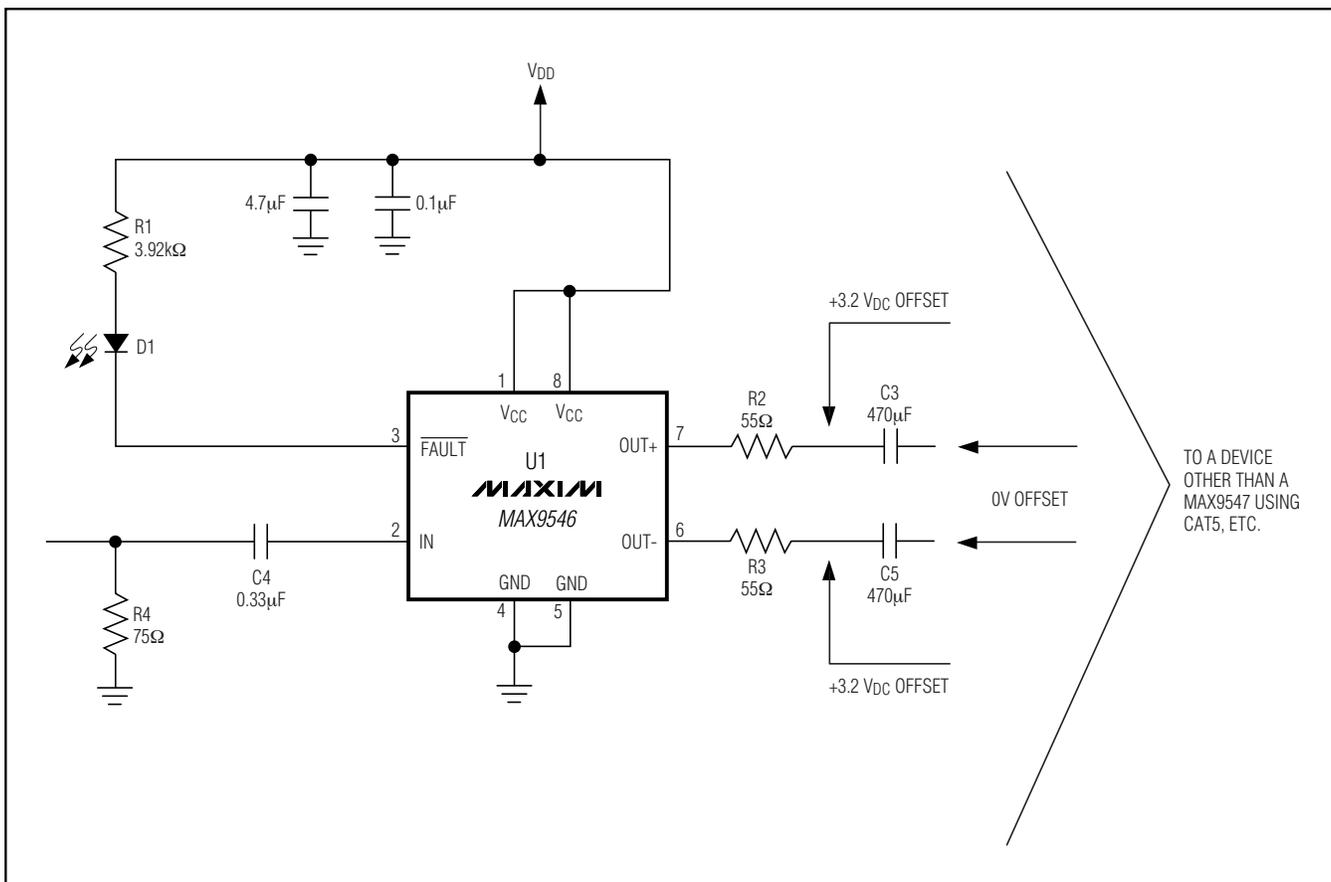
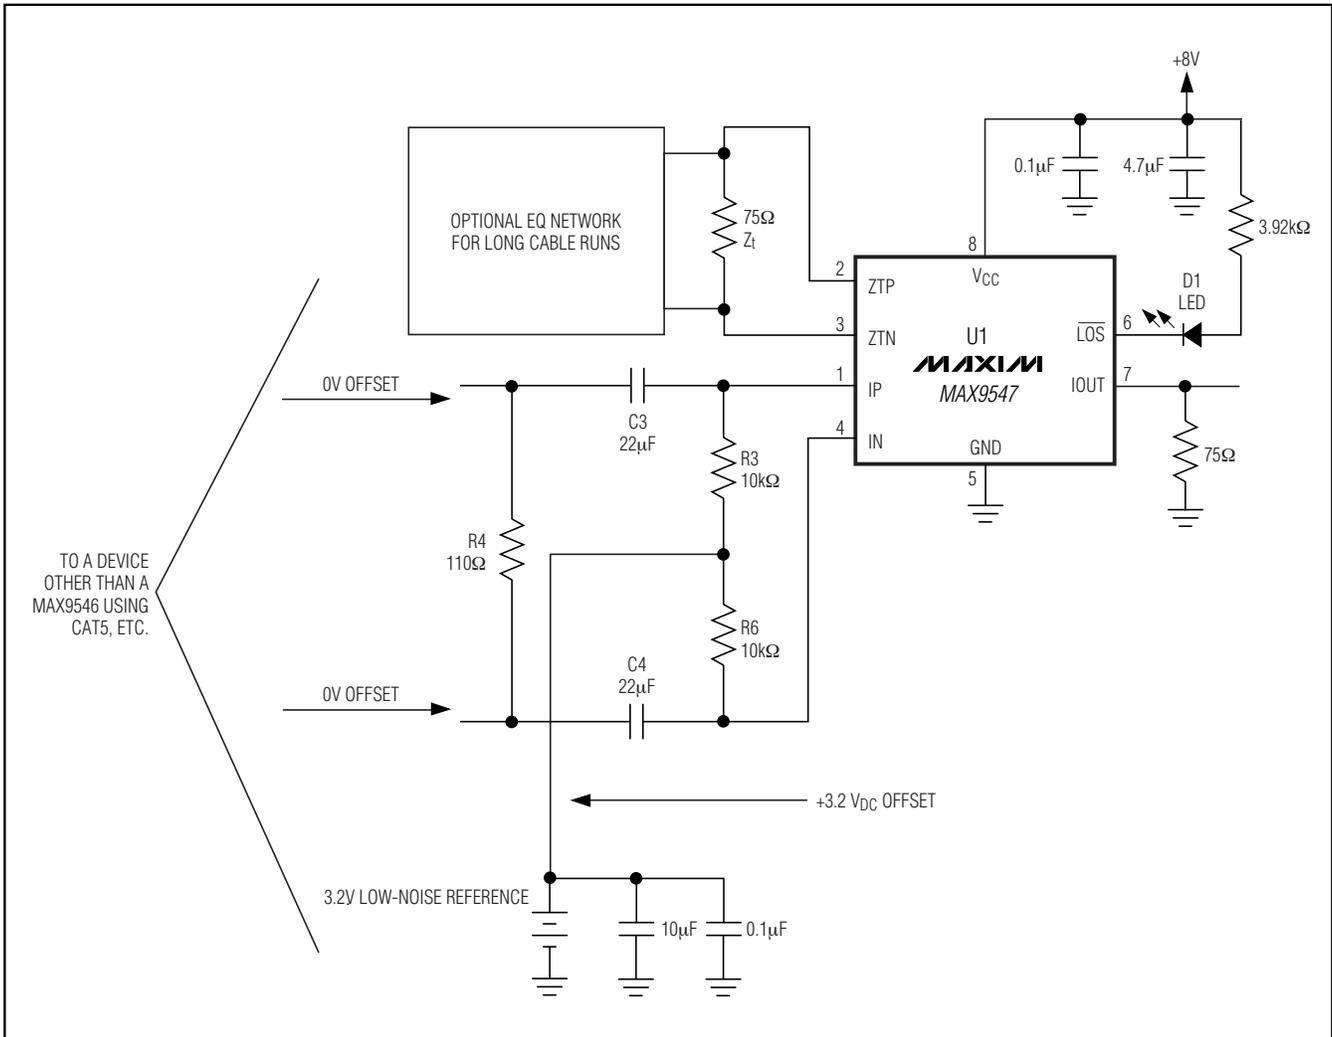
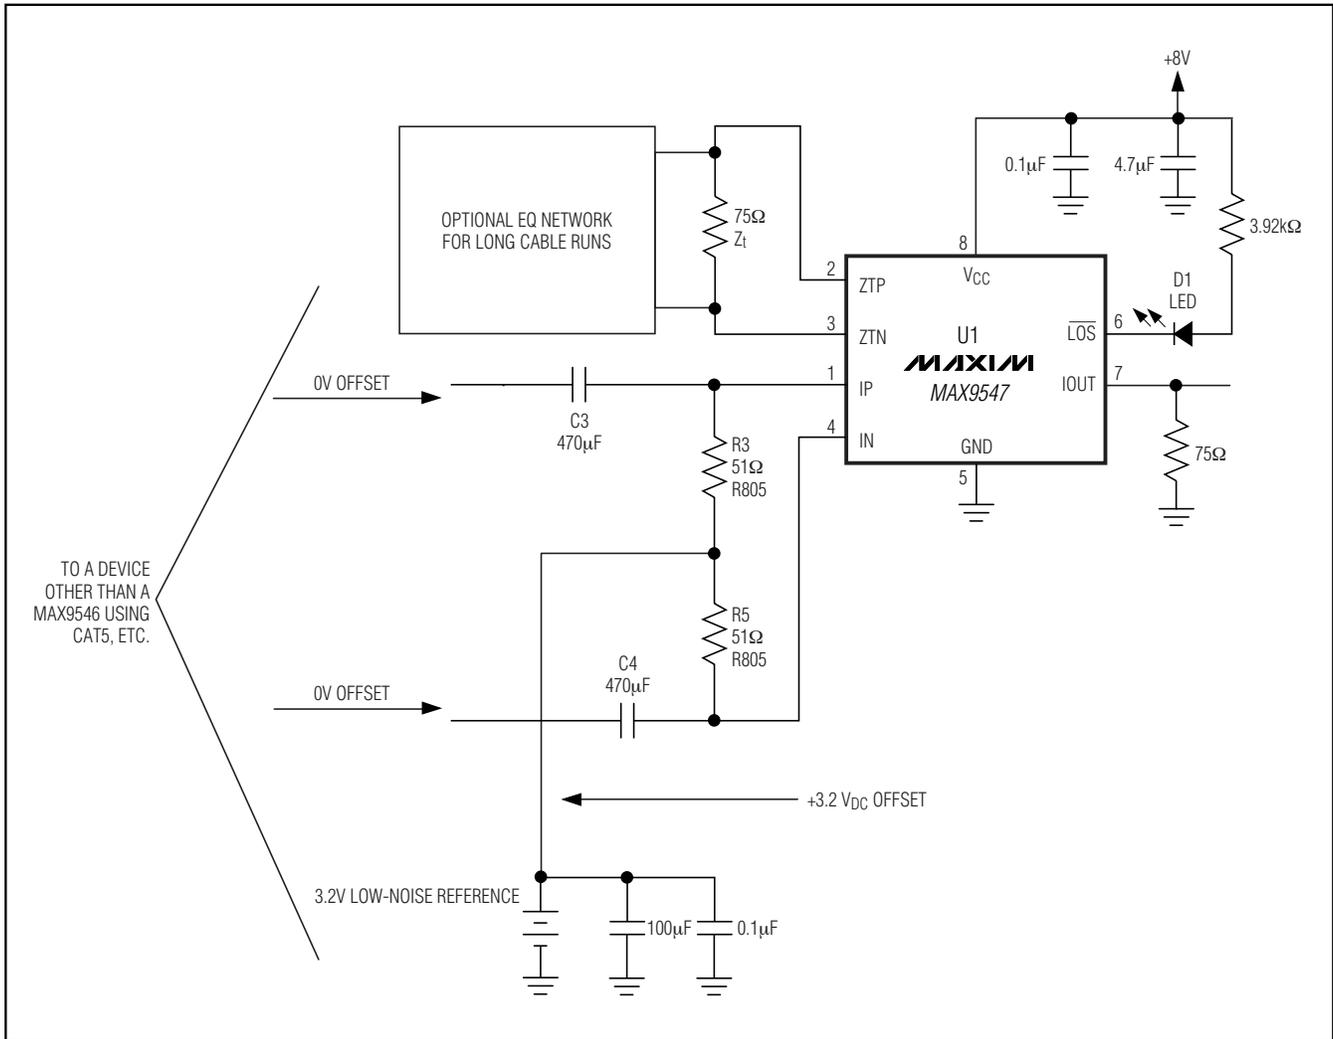

Figure 2. Suggested MAX9546 Configuration for Use with Other Devices
Figure 3. Suggested MAX9547 Configuration When Using Other Devices
Figure 4. Alternate MAX9547 Configuration for Use with Other Devices
**Note 14:** MAX9547 topology shown in Figure 3.
Figure 2 illustrates one possible topology for the MAX9546 when using other devices with different offset requirements. Figures 3 and 4 illustrate two possible topologies for the MAX9547 when using other devices with unknown or different offset requirements. The circuit shown in Figure 3 has a smaller PCB footprint at the expense of requiring higher DC offset currents from the source device. Figure 4 requires no DC offset currents although it has a larger PCB footprint.